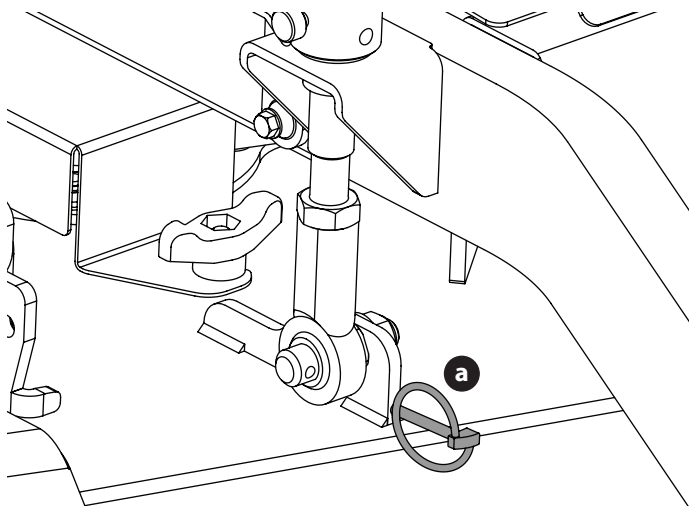

Figure 18
- Remove the four lynch pins (a) that secure the deck to the deck lift assembly (Figure 18).